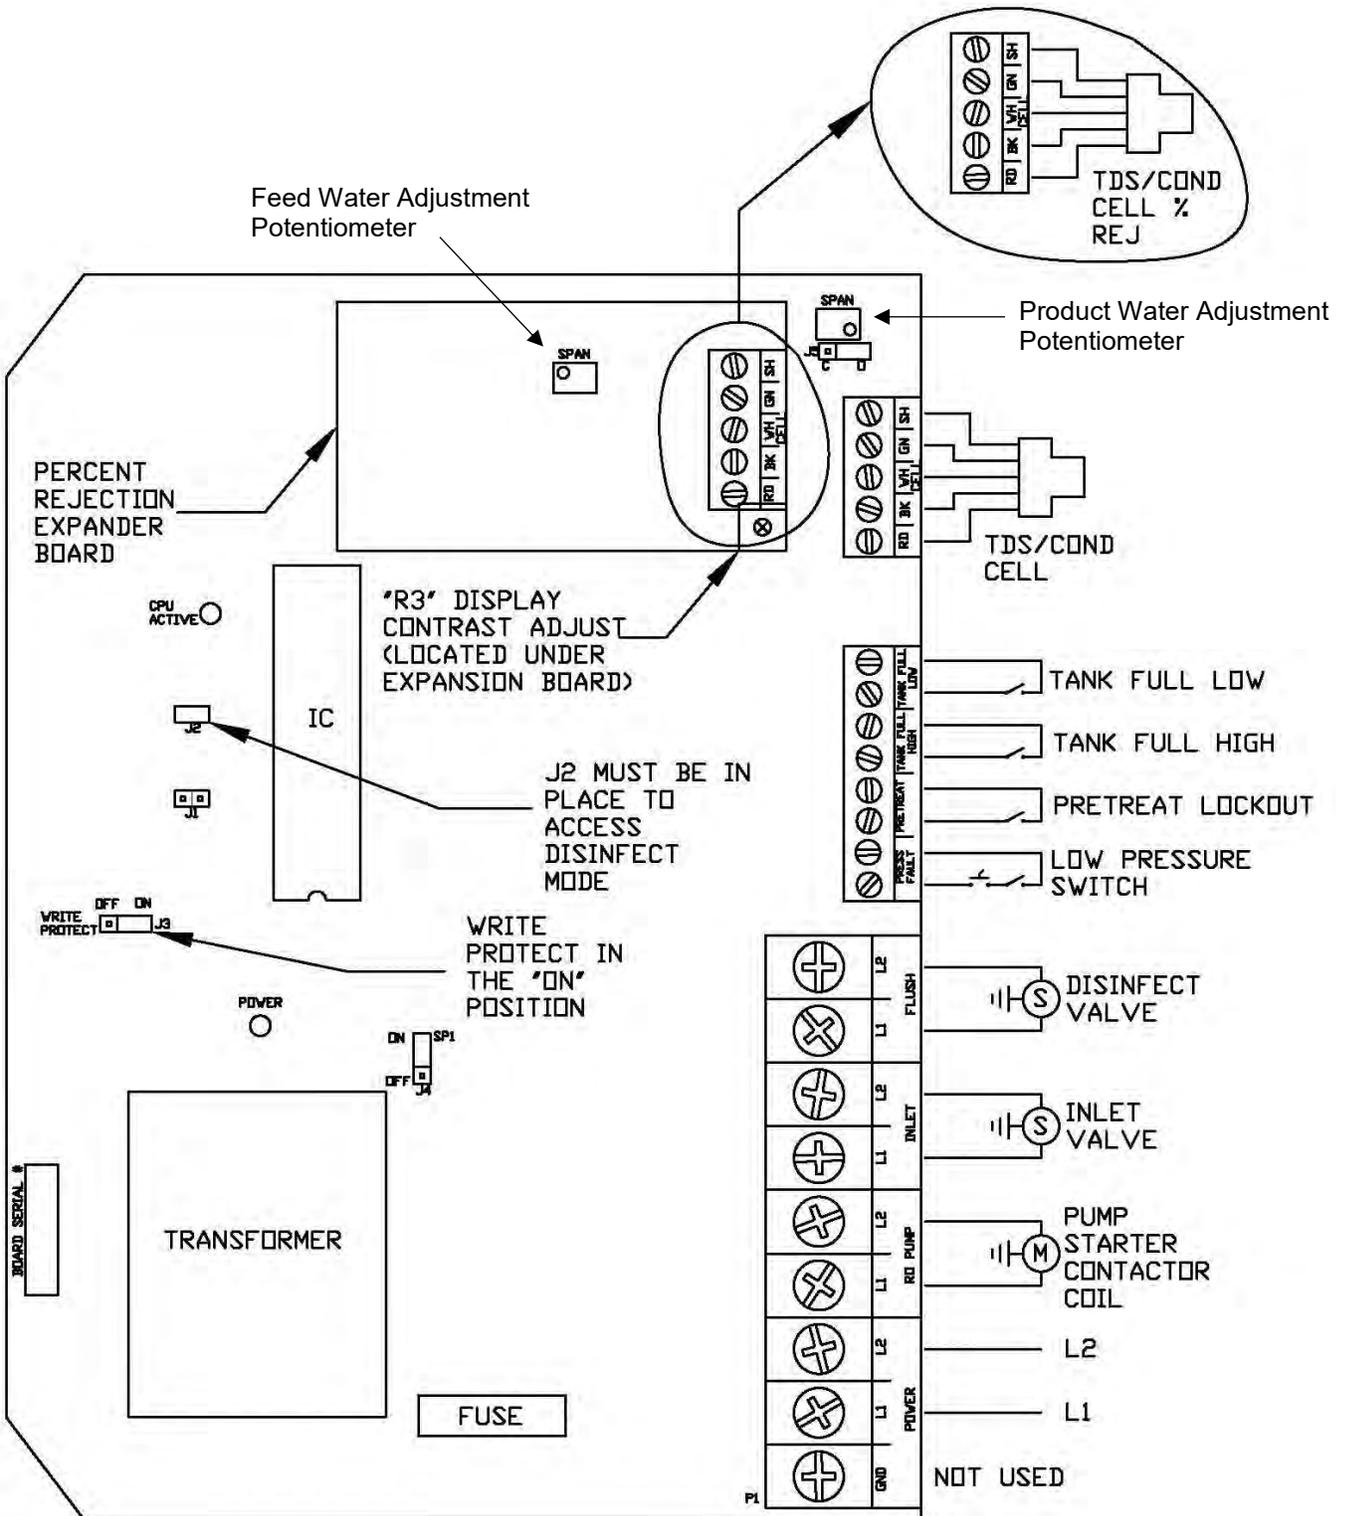

FIGURE 6.2
(Refer to Figure 6.2) | |
The accuracy of both the feed and the product conductivity displays should be verified with a calibrated, hand-held meter. If the either the feed or the product conductivity display is not within 5% of the hand-held meter reading, the controller should be adjusted by turning the appropriate potentiometer screw (Figure 6.2, below) until the conductivity value displayed matches the calibrated meter.
1. Refer to Figure 6.1 for the location of the keys used to display or change the Setpoints and Figure 6.2 for the location of the write protect jumper, J3. For the unit to be able to accept a change in a Setpoint, the shorting jumper must be in the WRITE PROTECT OFF position (center and left pins).